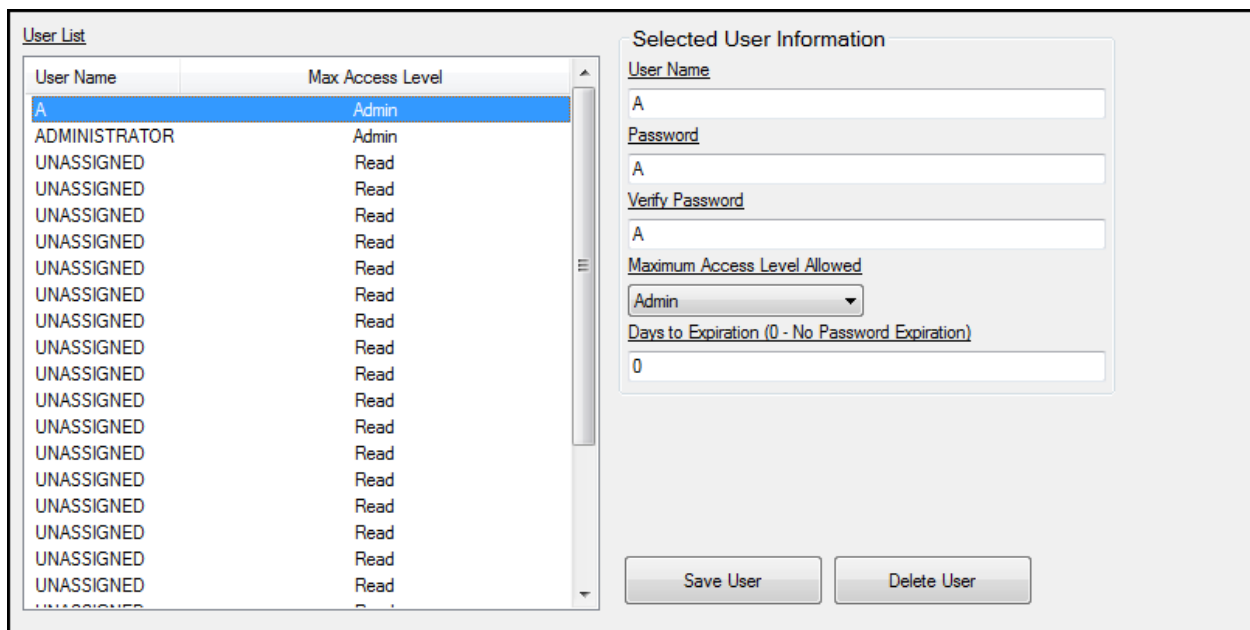

Figure 5. User Name Setup Screen
3. Only the administrator can modify usernames and passwords on the User Name Setup screen (Figure 5). Usernames and passwords can be as many as 16 characters in length and consist of upper and lowercase letters, numbers, and special characters.